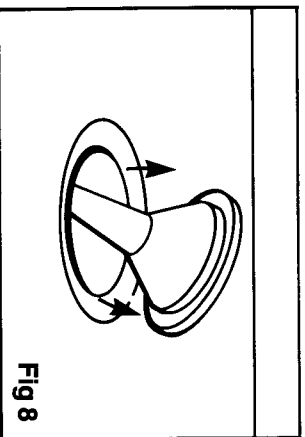

Fig 8
3. Remove the drain cap (Fig 8) which is in the base of the freezer compartment.